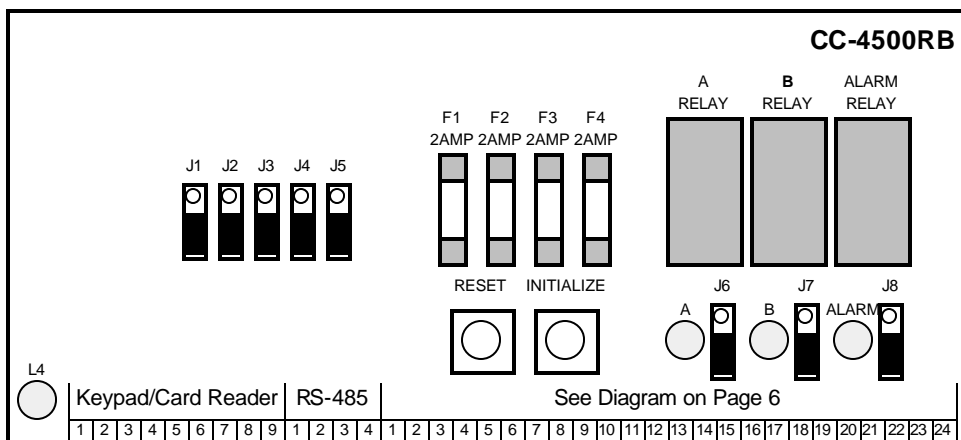

Figure 4 - Remote Board Jumpers, Fuses, Reset, and Relays
- 18 **A-N/C:** Relay A normally closed contact or solid state switch to ground. Set jumper J9 accordingly (see fig. 4).
- 21 **B-N/C:** Relay B normally closed contact or solid state switch to ground. Set jumper J10 accordingly (see fig. 4).
- 24 **ALARM-N/C:** Alarm relay normally closed contact or solid state switch to ground - set jumper J11 accordingly (see figure 4).
Figure 4 below details the CC-4500RB Remote Board.
Replace only with the same value 20mm fuse as shown in "figure 4".